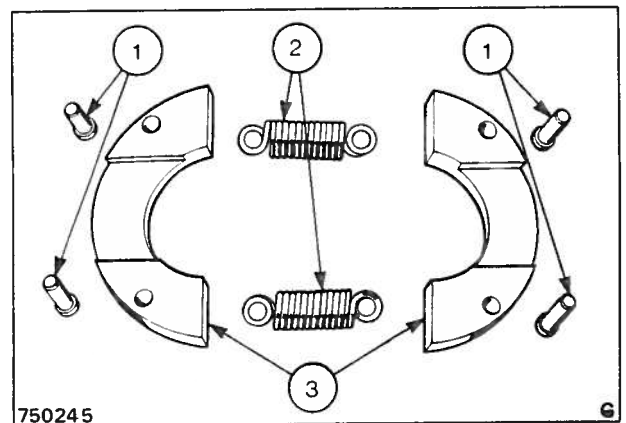

Fig. 25 Auto-advance unit weights and springs
6. Remove the spring retaining pins from the weights and springs. These pins are a slip fit, a circlip is fitted at one end which locates into a recess in the driving flange side of the weights, Fig. 25.